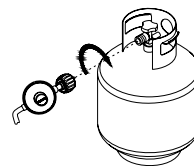

Figure 16
5. When connecting regulator and hose assembly to tank valve hand tighten quick coupling nut clockwise to a full stop. (Fig.16) Do not use a wrench to tighten because it could damage the quick coupling nut and result in a hazardous condition.